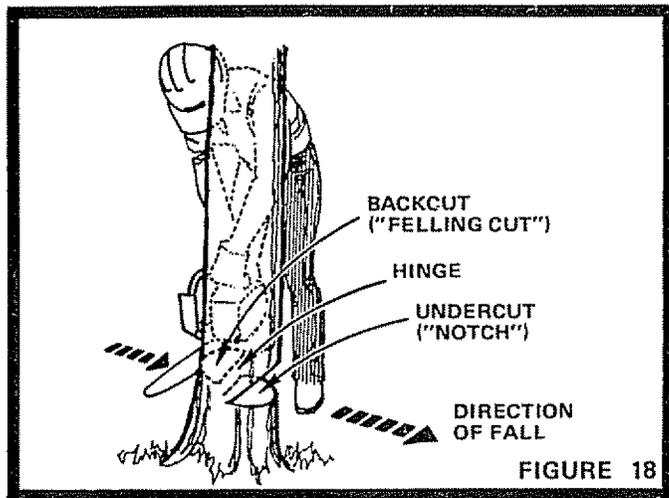

FIGURE 18
- a. Undercut ("notch") the tree on the side of natural fall (Fig. 18).
- b. Backcut ("felling cut") the tree opposite the notch (Fig. 18).